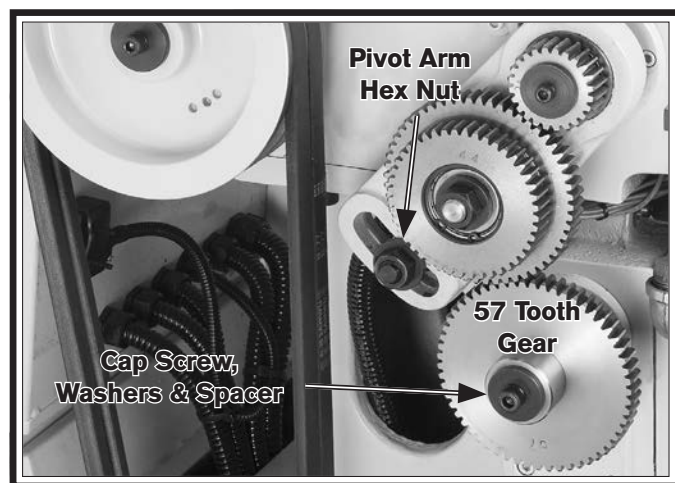

Figure 85. End gear components.
3. Remove the cap screw, lock washer, and flat washer from the 57 tooth end gear (see **Figure 85**).
4. Loosen the pivot arm hex nut shown in **Figure 85**, then swing the pivot arm to the left so that 44T/56T gears are away from the 57T gear. Hand tighten the hex nut to keep the arm in place.